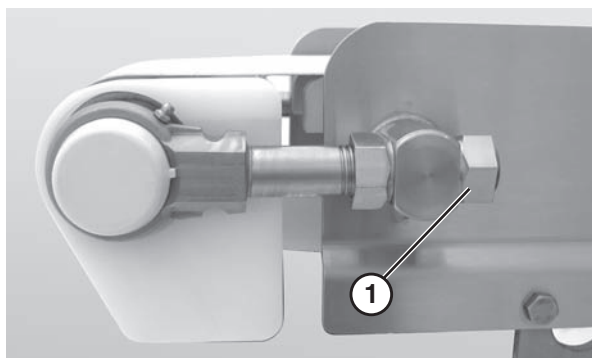

Figure 50
1. Loosen the back nuts (Figure 50, item 1) on both sides of the idler tail shaft.